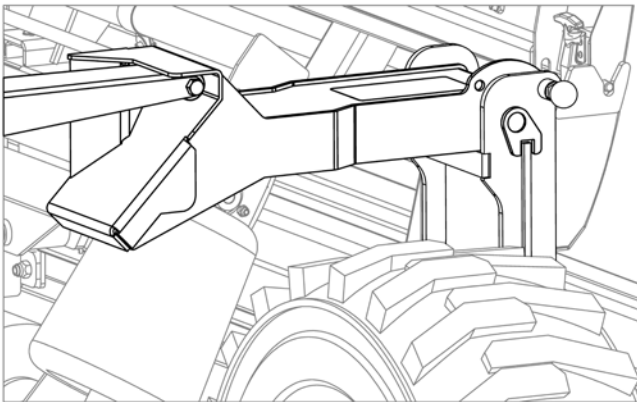

Fig.2
4. Lower dispatch arm to ensure it fits into right side pocket. See Fig.2.